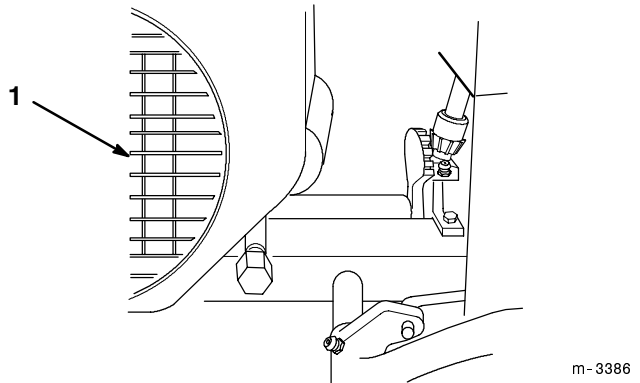

Figure 28
1. Clean off engine air intake (Fig. 28).